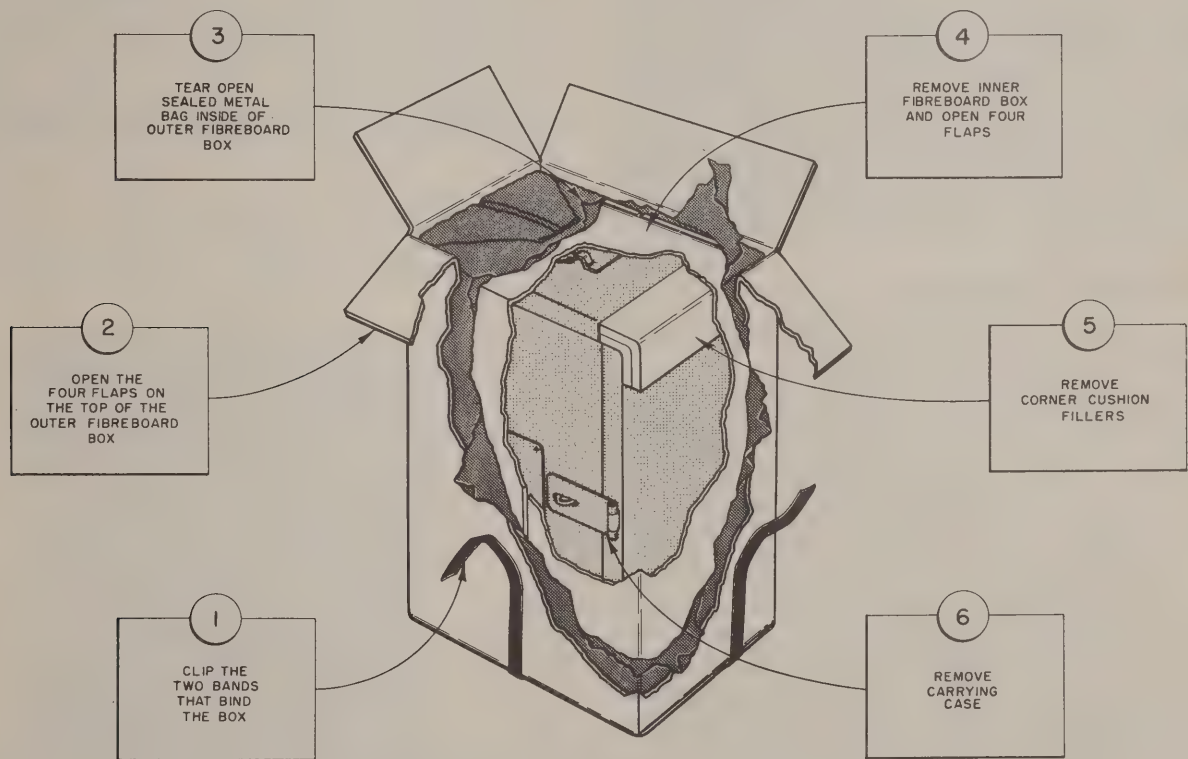

Figure 3-1. Radiac Set AN/PDR-18A, Unpacking Procedure
a. Unpack the equipment as directed in figure 3-1, following the numbered steps in sequence.